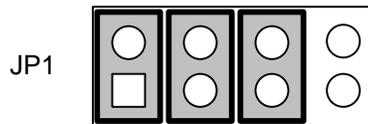

Figure 8. FT 5000 EVB Serial Memory Connections Header (JP1)
Leave the jumpers for the JP1 header mounted as shown in **Figure 8**. This header connects the FT 5000 Smart Transceiver to the onboard serial flash and serial EEPROM memory.
5. Disconnect pin 8 of header **JP1** from pin 7 of header **JP23**. Ensure that the jumpers for header JP1 are as shown in **Figure 8** on page 40.